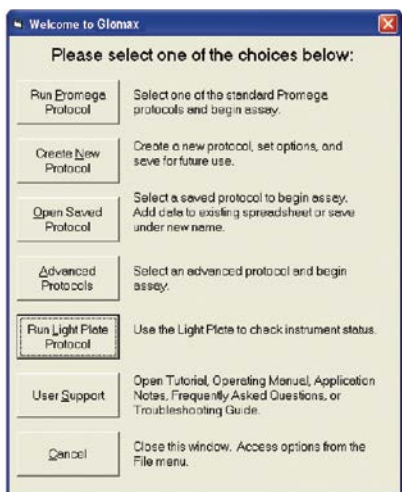

Figure 5. The *Welcome to GloMax[®]* Dialog Box.
1. To launch the GloMax[®] 96 software, click on the GloMax[®] icon on the desktop, or select the program from the Start menu of your computer. The *Welcome to GloMax[®]* dialog box will appear (Figure 5).